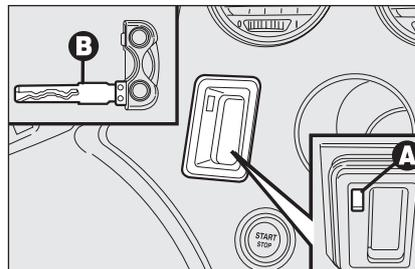

fig. 9
- fit the metal insert **B**-fig. 9 of the electronic key into the slot **A**;
IMPORTANT Only fit the metal insert **B** of the electronic key into slot **A**-fig. 9.